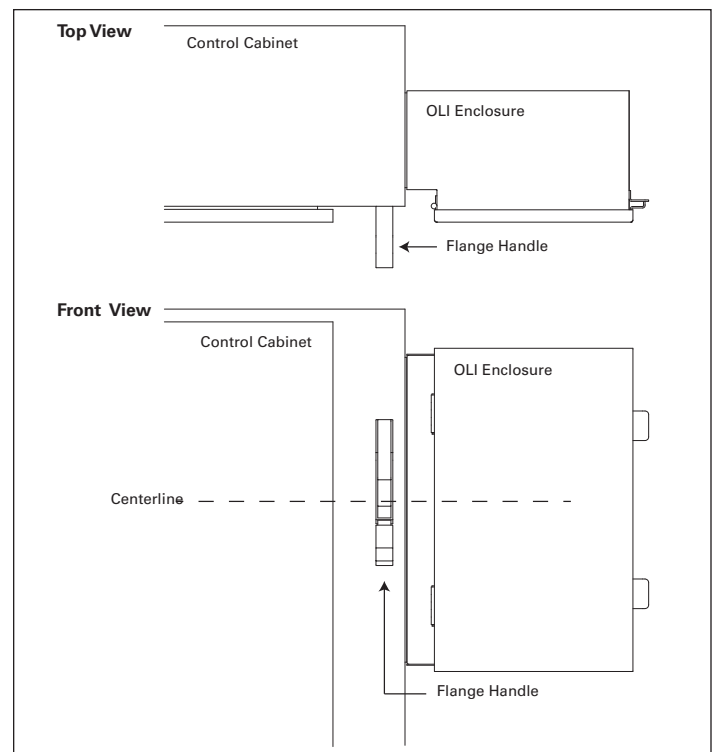

Figure 3. Top and Front View.
1. Remove the two ¼-20 x 5/8" (15.87 mm) screws and lock-washers from the outer handle mechanism. Place each screw and lockwasher through the pivot bracket assembly. Thread the retaining washers enclosed in the parts kit onto the 1/4-20 x 5/8" (15.87 mm) screws (see Figure 3).
2. Connect the actuator link from the outer handle mechanism on the pivot bracket assembly. Mount the pivot bracket assembly to the enclosure and outer handle mechanism by securing the mounting hardware. Attach the E-Ring supplied in the parts kit to the actuator link (see Figure 3).
8. Install appropriate door hardware (supplied); as referenced on Figure 3. Door hardware should ensure interlocking with handle operator, and customer enclosure door. Proper installation will not allow opening of customer enclosure door when handle is in the ON position.
Remove the E-Ring from the Cylinder Connector that is found on the Pivot Bracket Assembly/Toggle Mechanism Bell Crank (see Figure 3). The Cylinder Connector should be moved from the hole marked "LN" to the hole marked "M". Do not attempt to thread this Cylinder Connector up or down its shaft. Replace the E-Ring. Verify handle travel. If necessary, make switch end cable adjustments per descriptions above.